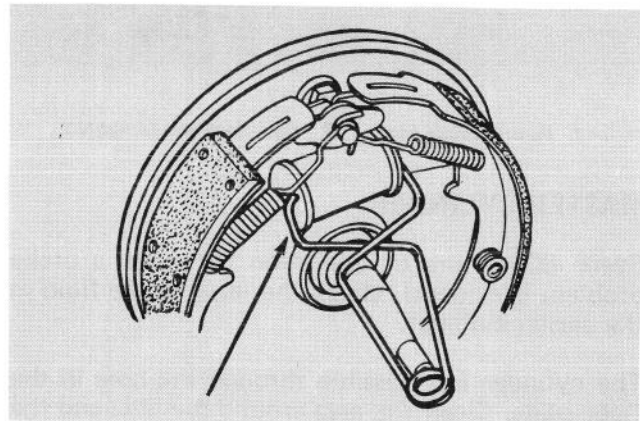

Figure 92
3. Install wheel cylinder clamp (Fig. 92) to hold wheel cylinder pistons in place.